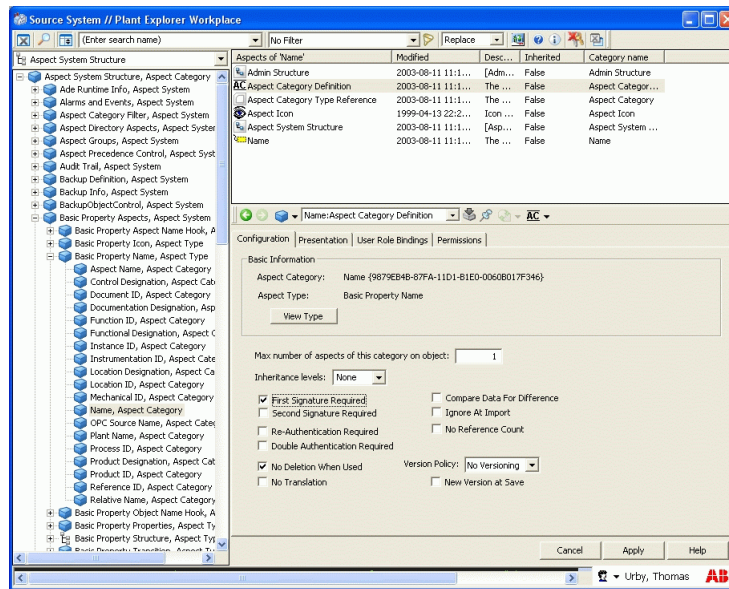

Figure 103. Aspect Category Definition Aspect - Configuration Tab
4. Select the Aspect Category Definition aspect in the aspect list. See Figure 103.